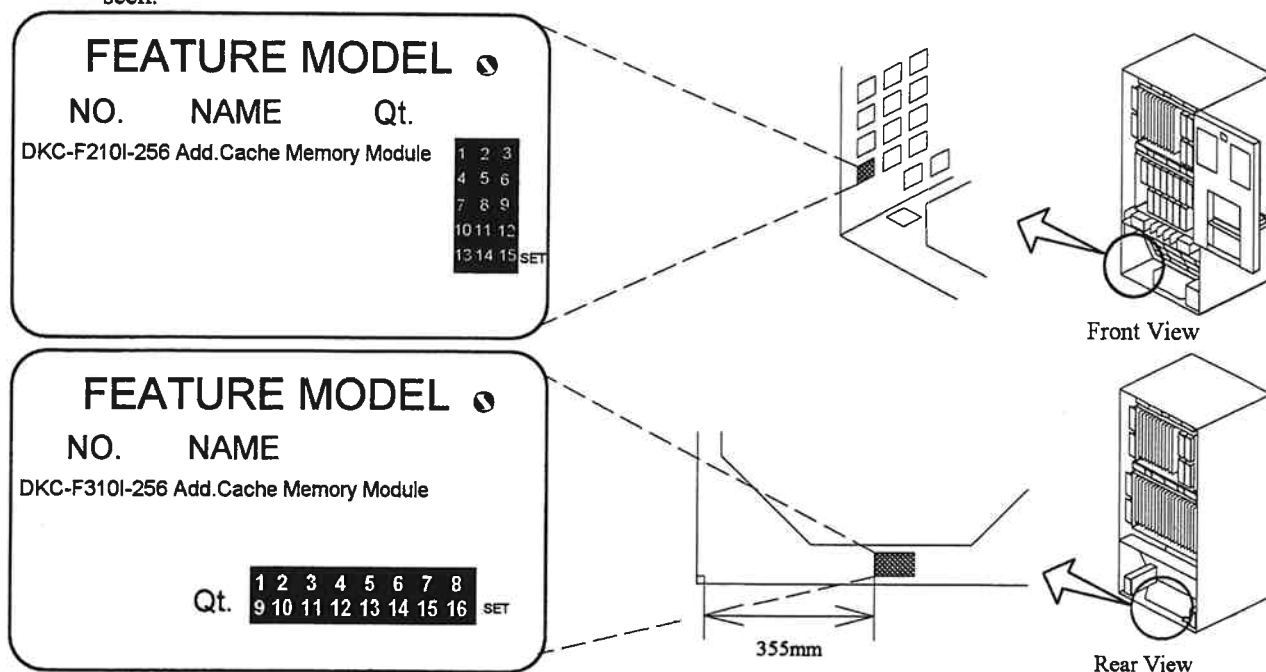

Fig. 3.3.7.4.2-8 Location of the Nameplate
- When the DKC-F310I-256 is to be newly installed, attach a nameplate according to Figure 3.3.7.4.2-8. When the nameplate is already attached, go to the next step.
- Refer to Fig. 3.3.7.4.2-8 and Table 3.3.7.4.2-8 to paint out unnecessary numbers and wipe off a necessary number painted previously so that the "Qt." marking for the corresponding DKC-F210I-256/DKC-F310I-256 can be seen.